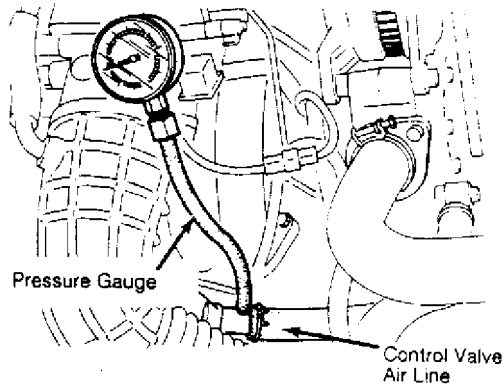

Fig. 2: Connecting Pressure Gauge to Air Pump
- 2) Stop engine and disconnect air line at air control valve. Connect hose to a pressure gauge. Connect tachometer to engine. See Fig. 2.